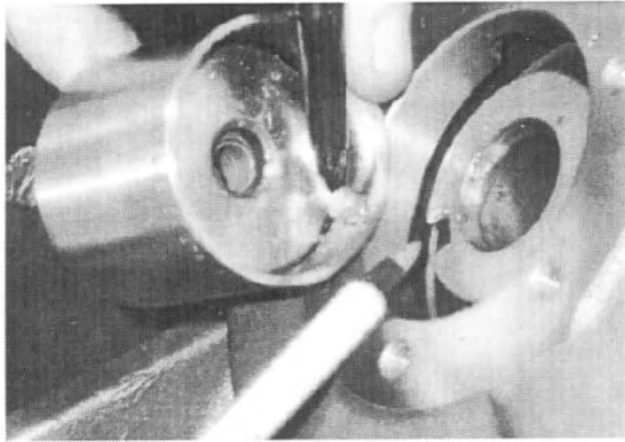

Fig. 109
1. Without the pressure relief spring installed, position the pump cartridge assembly onto the end of the intermediate shaft. See Fig. 109.
CAUTION: THE CARTRIDGE PIN MUST MATE WITH THE SLOT ON THE INTERMEDIATE SHAFT. SEE FIG. 109.